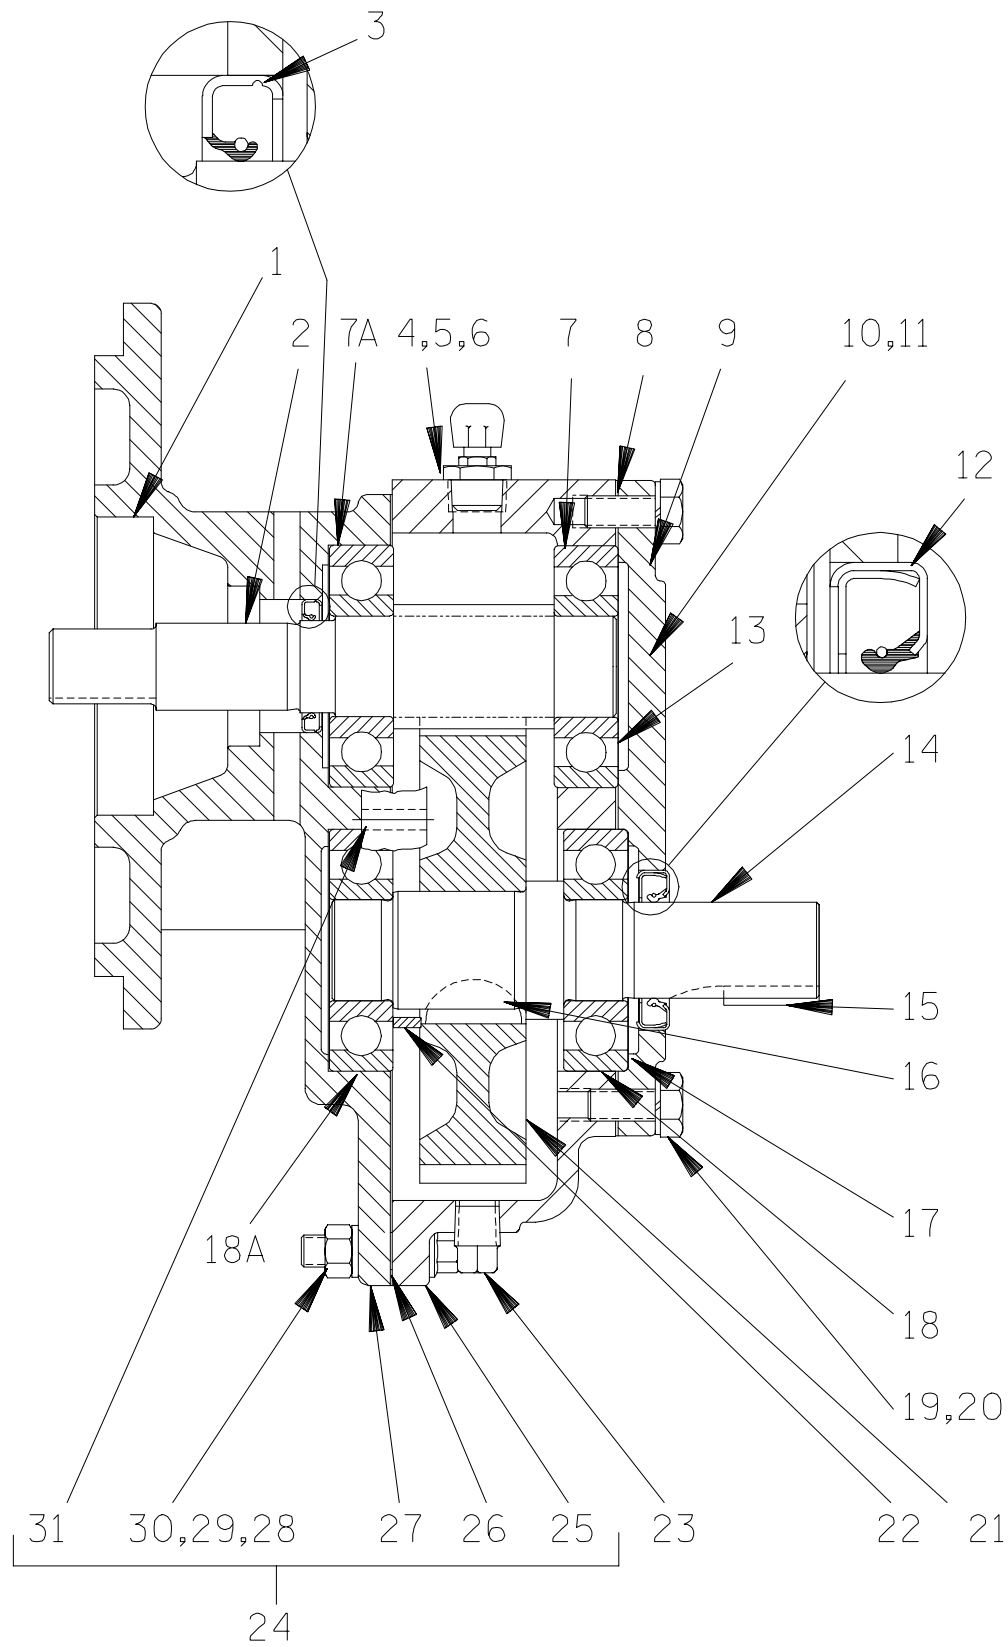

Figure 2. 44161-014 Gear Box Assembly
To service the impeller, wear ring or seal assembly, the pump casing (1) must be separated from the seal plate (27, Figure 2).
To loosen the impeller screw (21), immobilize the drive shaft (14, Figure 2). Remove the impeller screw, lockwasher (22), and impeller washer (19).
Inspect the pinion shaft (2, Figure 2) for distortion, nicks, scratches, or damage to the shaft keyway. Dress small nicks or burrs with a fine file or emery cloth. If excessive wear exists, refer to **GEARBOX DISASSEMBLY** and replace the shaft.